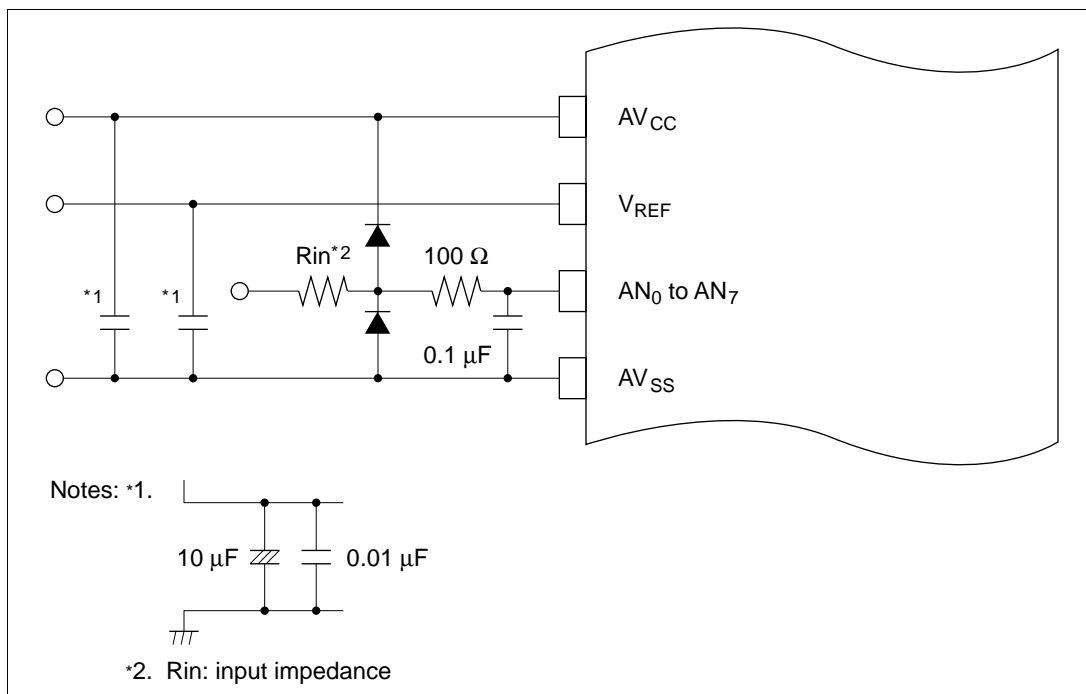

Figure 15.7 Example of Analog Input Protection Circuit
5. Note on Noise: To prevent damage from surges and other abnormal voltages at the analog input pins (AN_0 to AN_7) and analog reference voltage pin (V_{REF}), connect a protection circuit like the one in figure 15.7 between AV_{CC} and AV_{SS} . The bypass capacitors connected to AV_{CC} and V_{REF} and the filter capacitors connected to AN_0 to AN_7 must be connected to AV_{SS} . If filter capacitors like the ones in figure 15.7 are connected, the voltage values input to the analog input pins (AN_0 to AN_7) will be smoothed, which may give rise to error. Error can also occur if A/D conversion is frequently performed in scan mode so that the current that charges and discharges the capacitor in the sample-and-hold circuit of the A/D converter becomes greater than that input to the analog input pins via input impedance R_{in} . The circuit constants should therefore be selected carefully.